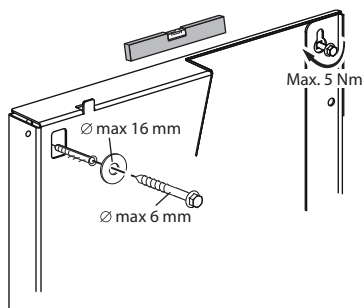

Fig. 3: Wall fixation
- Connect to 230 V low-voltage networks. When connecting to IT networks (Isolé Terre electrical system), always make sure that the voltage between the live wires (L1-L2, L2-L3, L3-L1 → Fig. 3) does not exceed 230 V.